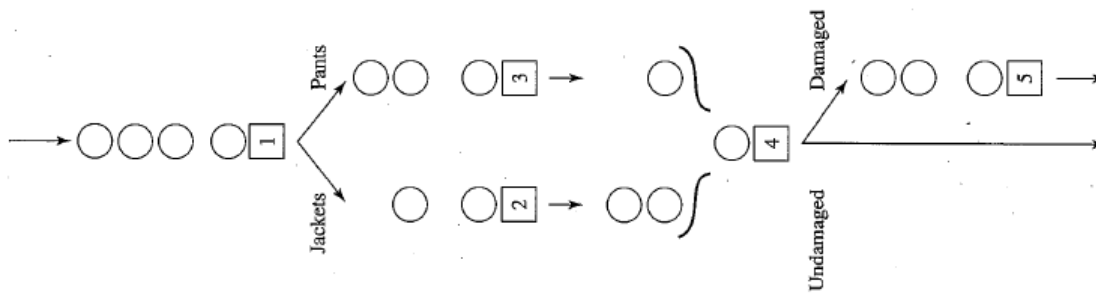

Figure 1: Dry-cleaning operation
1. Problem 2.26 from the text of Law (2015): Two-piece suits are processed by a dry cleaner, illustrated in Figure 1, as follows. The shop currently employs five servers (labeled as 1–5). Each of servers 1, 2, 3 and 5 have a single FIFO queue, while server 4 serves two FIFO queues. Suits arrive with exponential interarrival times having mean 10 minutes, and are all initially served by server 1, perhaps after a wait in queue. Upon completion of service at server 1, one piece of the suit (the jacket) goes to server 2, and the other part (the pants) to server 3. During service at server 2, the jacket has a probability of 0.05 of being damaged, and while at server 3 the probability of a pair of pants being damaged is 0.10. Upon leaving server 2, the jackets go into a queue for server 4; upon leaving server 3, the pants go into a different queue for server 4. Server 4 matches and re-assembles suit parts, initiating this when he is idle and two parts from the *same* suit are available. If both parts of the reassembled suit are undamaged, the suit is returned to the customer. If either (or both) of the parts is (are) damaged, the suit goes to customer relations (server 5). Assume that all travel times are negligible (0), and the service times are exponential with the following means (in minutes) and use the indicated stream assignments:
- At the Separator object (server 1), you can make copies of the original entities (suit). The original entity (parent) leaves the “top” link and, to follow Figure 1, represents the pants. The copy leaves from the bottom link, hence it represents the jacket. Keep in mind that the copies get new entity ID; this ID is stored in the entity state variable (attribute) Entity.ID.